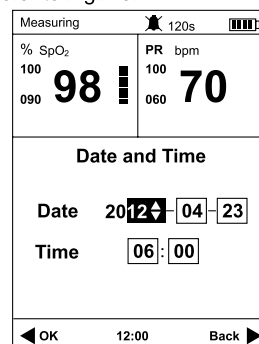

Fig.4-3
2) Press the Navigation button to select “Date and Time” item, and then press the OK button to enter the time setup screen, refer to Fig.4-3.